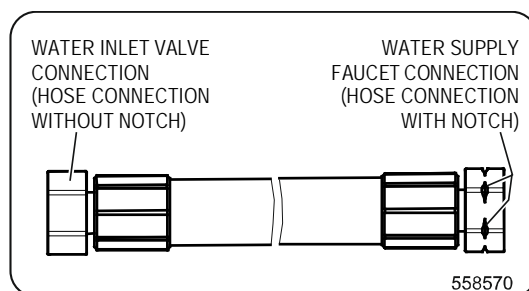

Figure 9 – North American models
- **NOTE - North American models:** Water inlet hose with the notches should be connected to the water supply faucet, while the side of the water inlet hose without notches should be connected to the water inlet valves. Refer to Figure 9.